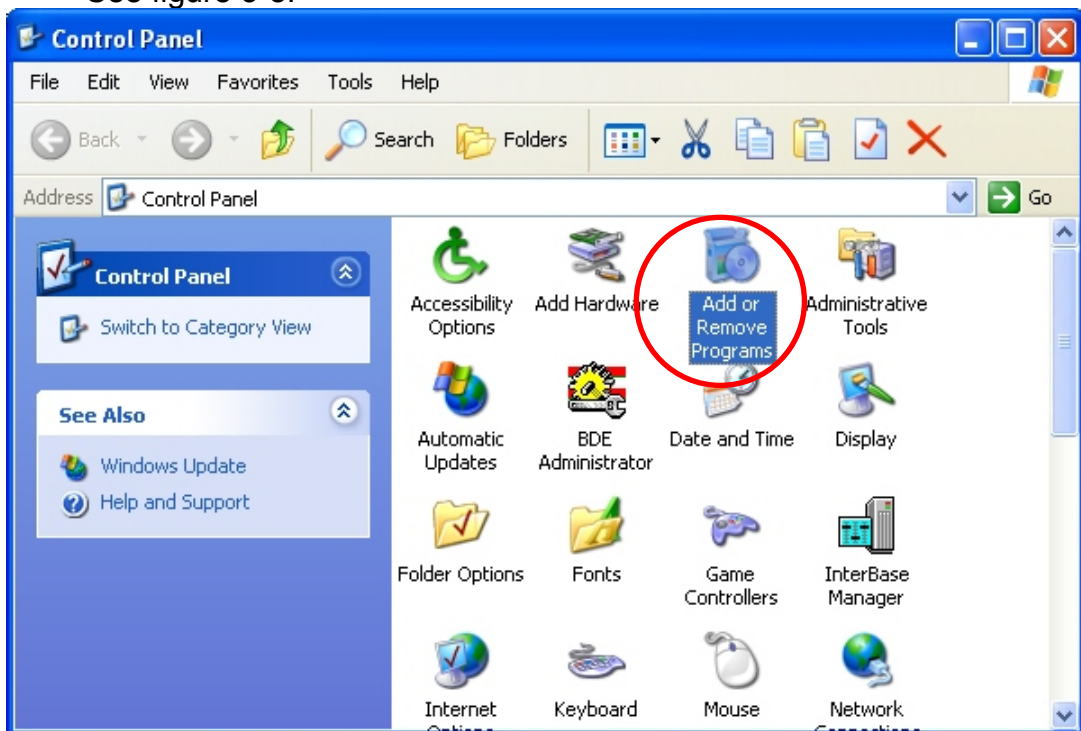

Figure 5-8: “Add or Remove Programs”
**Step 2:** Double click the “Add or Remove Programs” button icon to open the dialog. See figure 5-8.